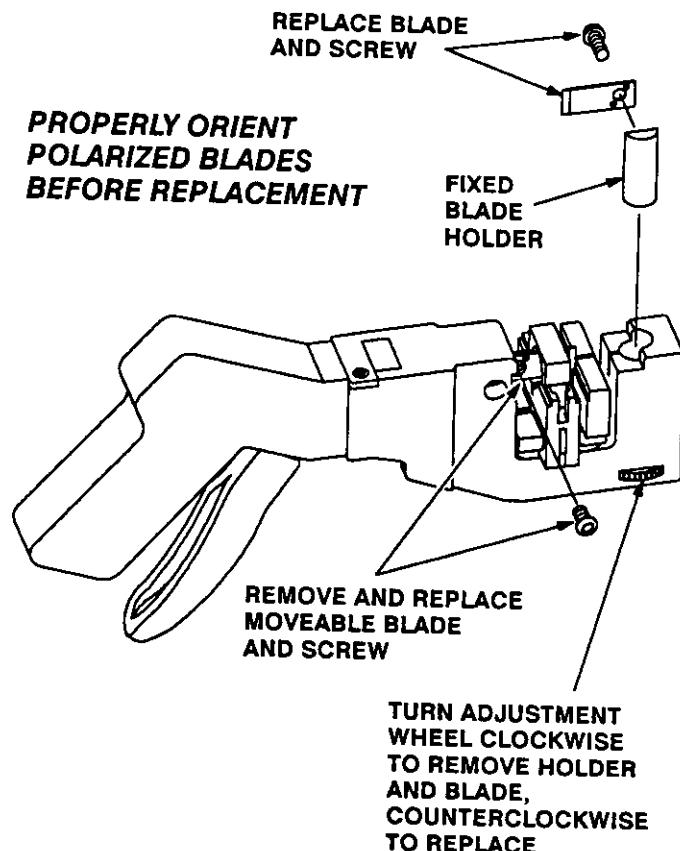

Fig. 7
## 5. MAINTAINING THE TOOL (Figure 7)
3. Handle must be assembled to head to remove the moveable blade. Press both release buttons and slide guide as far front as possible. Advance ratchet until screw clears head and remove screw (See Figure 7).